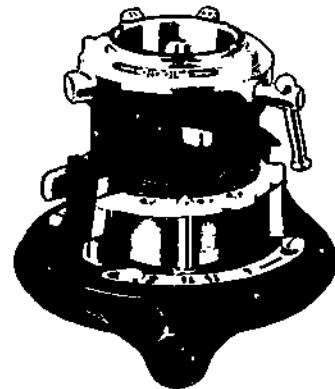

Figure 7-27. Pipe Threader Not Requiring Force
- d) Threaders such as shown in Figure 7-27 do not require force, but are drawn onto the pipe as it is rotated. The locking device at the rear must be tightened to the pipe.